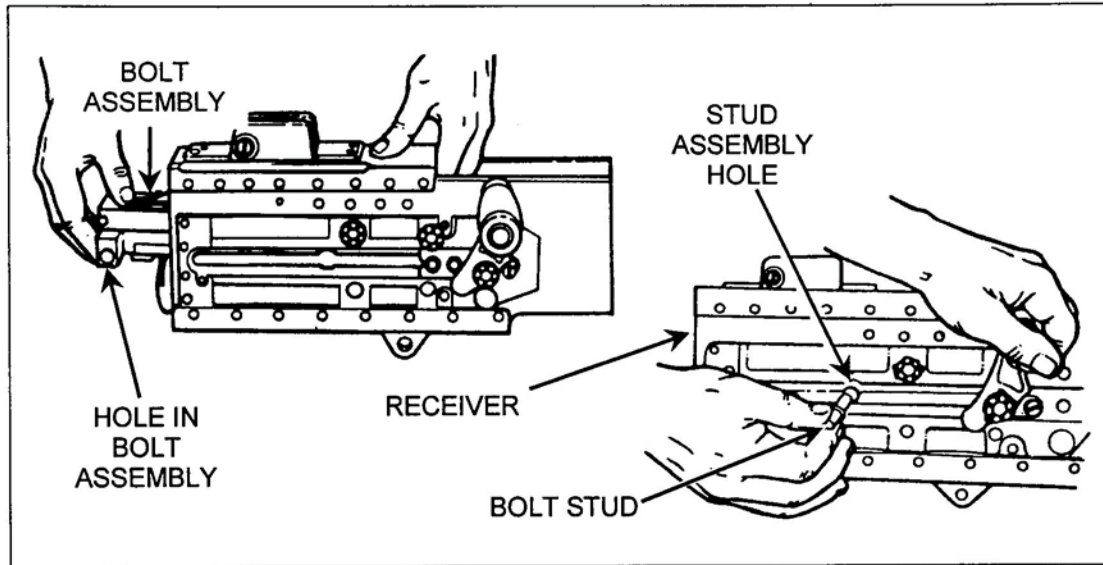

Figure 40. Installation of the bolt assembly.
- (20) Raise bolt latch and push bolt assembly into the receiver.
(21) Align holes in bolt assembly with stud assembly hole in receiver and install bolt stud in hole in bolt assembly. Place bolt in forward position (Figure 40).